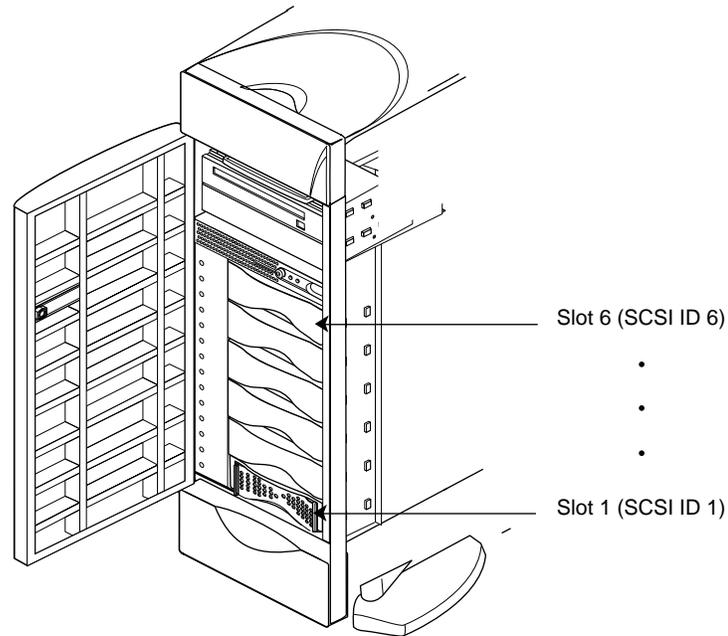

Figure 7-18 How the 3.5-inch Drives are Numbered in Origin200
- The drives are numbered as shown in Figure 7-18.